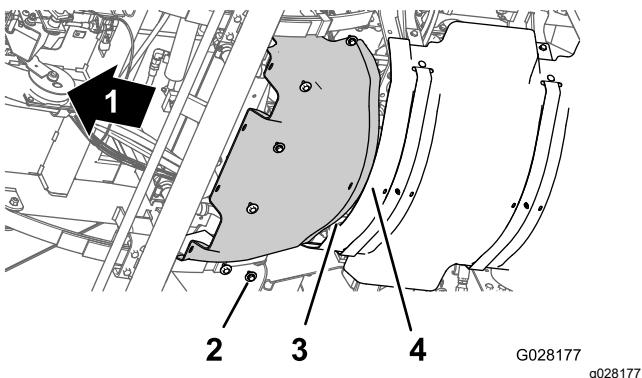

Figure 61
1. Align the rear flange of the forward heat shield over the forward flange of the rear heat shield (Figure 61).
2. Align the holes in the forward heat shield with the threaded holes in the chassis (Figure 61).
3. Assemble the forward heat shield to the machine with the 6 hex-head bolts and 6 washers (Figure 61) that you removed in step 3 of Removing the Forward Heat Shield \(page 50\).